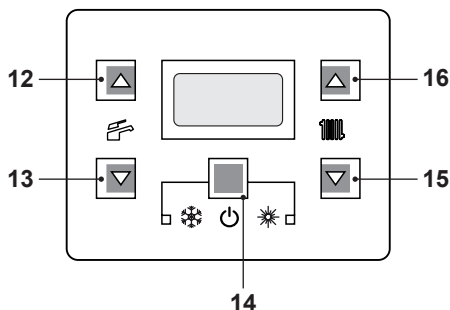
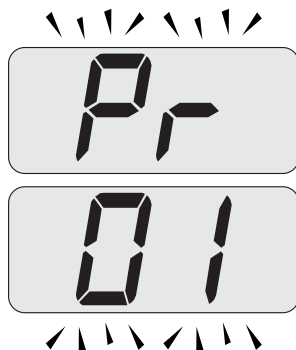

Fig. 9.18
Fig. 9.19
- Enter in "programming mode" by pressing keys 14 - 15 - 16 (Fig. 9.18) for 10 seconds at the same time until the letters **Pr** that alternate with code **01** are displayed on the LCD display, indicating that "parameter 01" (Fig. 9.19) has been activated.
- Press keys 15 and 16 (Fig. 9.18) at the same time until the LCD display displays the letters **LP** that alternate with the heating water temperature value (e.g.**45**), indicating the activation of the "chimney sweep function" at minimum output (Fig. 9.20).
- By pressing 16 (Fig. 9.18) it is possible to change power in chimney sweep mode: with the letters **hP** on the LCD display which alternate between the heated water temperature (i.e.**32**), we are in the "chimney sweep function" at the minimum power during heating (Fig. 9.21).
- Press keys 14 - 15 - 16 (Fig. 9.18) at the same time again to exit the "chimney sweep mode" and return to the previously set boiler status (Fig. 9.24).